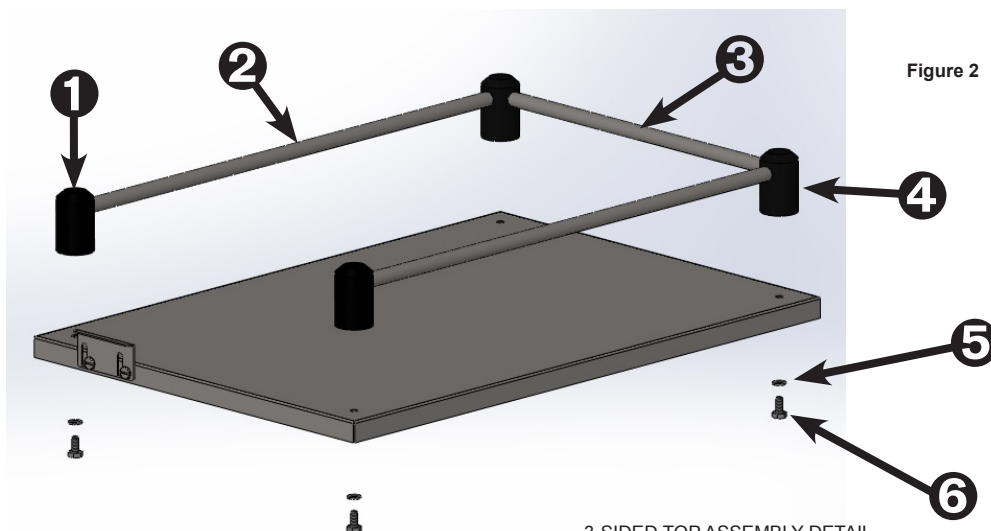

Figure 2
Step 2: Assemble the top rails as indicated and attach to the top from the inside of the cabinet through the predrilled holes with the M10-20 bolts and washers supplied in the kit using a 15mm socket or wrench. (See Figure 2)